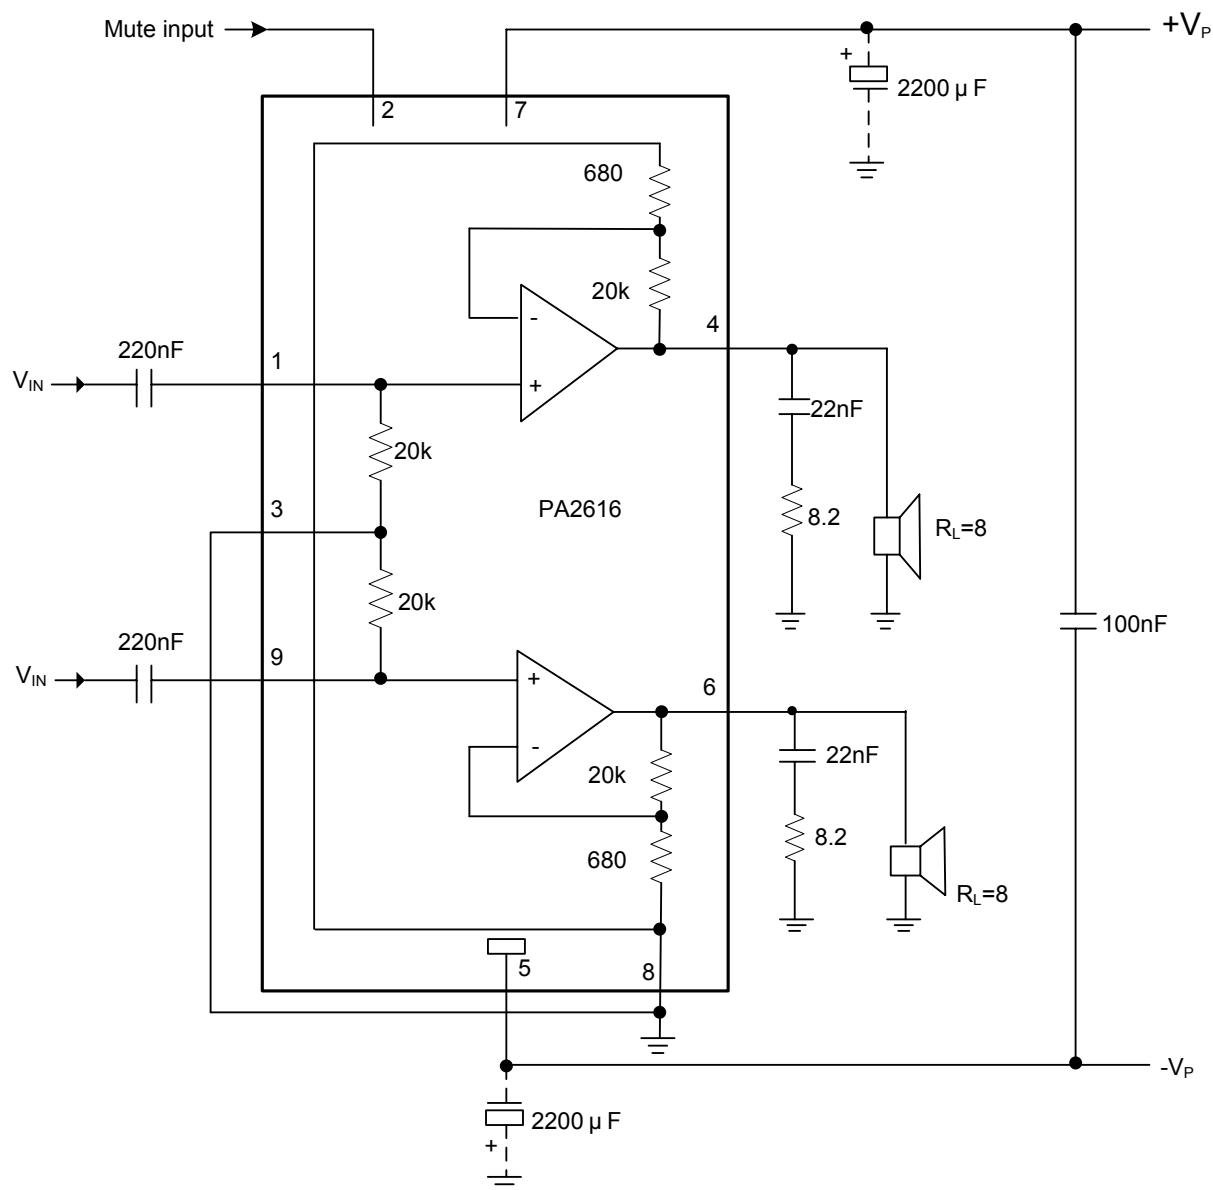

Fig. 1 Test and Application Circuit with Symmetrical Power Supply
Note: 1.  $V_P = \pm 16 \text{ V}$ ;  $R_L = 8 \Omega$ ;  $T_a = 25^\circ\text{C}$ ;  $f = 1 \text{ kHz}$ ; symmetrical power supply  $I_{MUTE} < 30 \mu\text{A}$ . See Fig. 1
5.  $\pm V_P = 4 \text{ V}$ ;  $R_L = 8 \Omega$ ;  $T_a = 25^\circ\text{C}$ ;  $f = 1 \text{ kHz}$ ; symmetrical power supply. See Fig.1